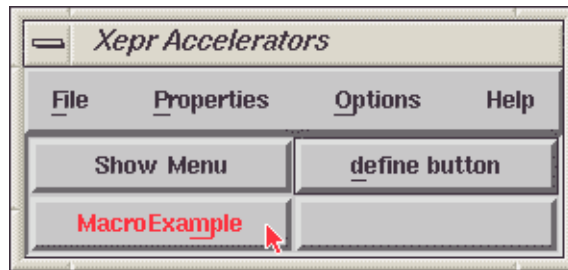

Figure 8-10 The macro buttons in the Xepr Accelerators box.
8. **Finish defining the user button.** Click Apply and then Close to finish making the user button. The newly defined button should appear in the Xepr Accelerators dialog box. (See Figure 8-10.)